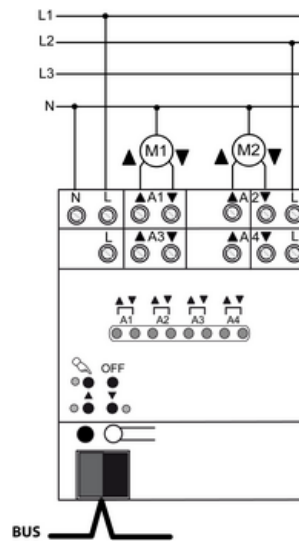

Figure 3: Connection example with two motors
- Connect bus cable to the roller shutter actuator using the connecting terminal (Figure 3).
- Connect mains voltage supply (Figure 3).
- Connect motors to load terminals **A1** ... **A4**(Figure 3).